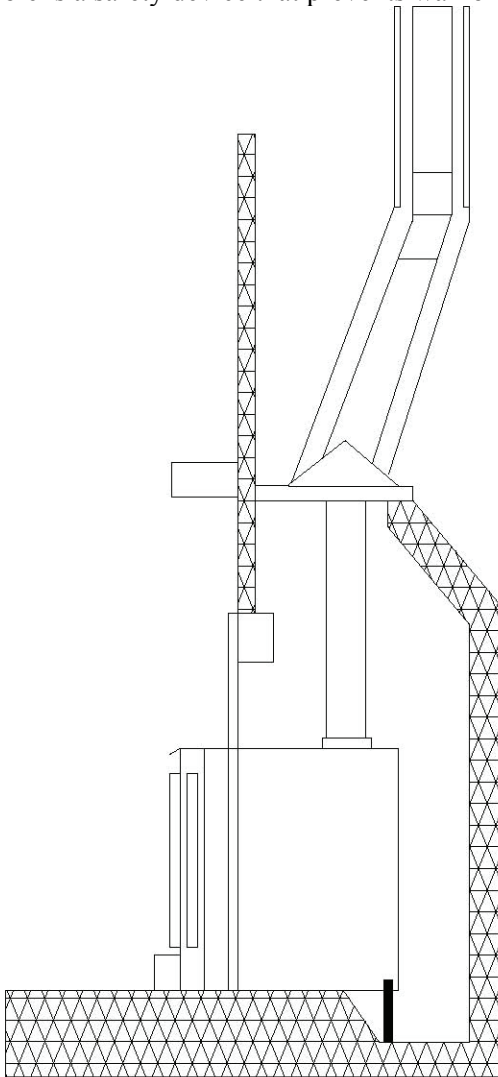

FIGURE 16: MASONRY CHIMNEY
- a) Masonry, as shown in FIGURE 16.